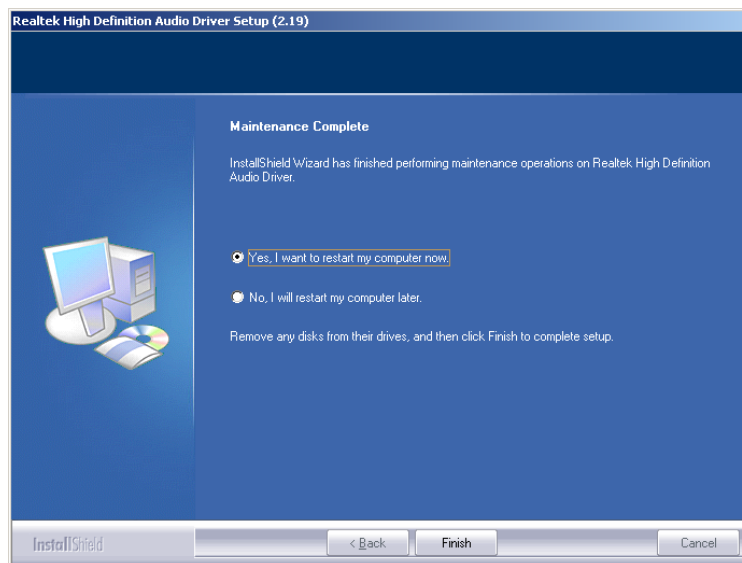

Figure 6-23: Restart the Computer
Step 8: After the driver installation process is complete, a confirmation screen appears (**Figure 6-23**).